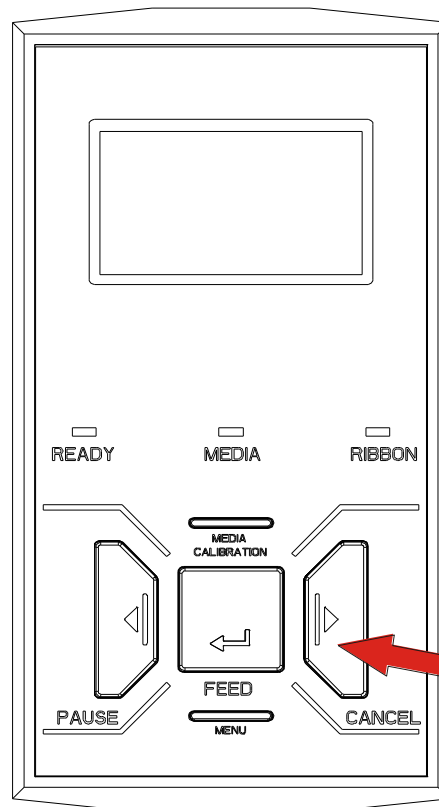

Figure 3-4
3. Reset the printer: press and hold the Cancel button for 4 seconds, the three lamps will blink simultaneously. Release and press the Cancel button again, the three indicators stop blinking and remain lit. The printer is now in its normal state (see Figure 3-4).